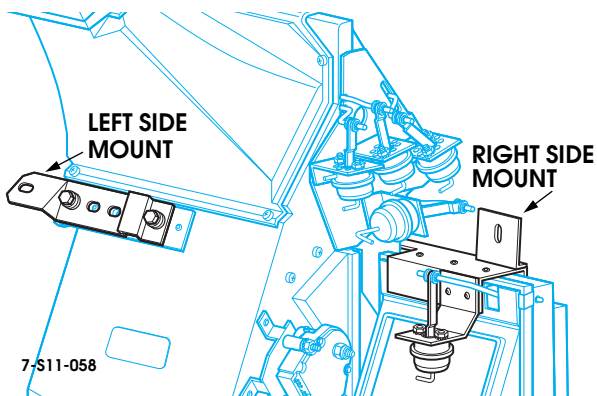

Figure 11-65: Interior mounting points
19. Remove interior bolt securing left and right side of the HVAC unit to the body. Support the unit prior to removing the second fastener to prevent the unit from falling down and causing possible damage or injury (Figure 11-65).